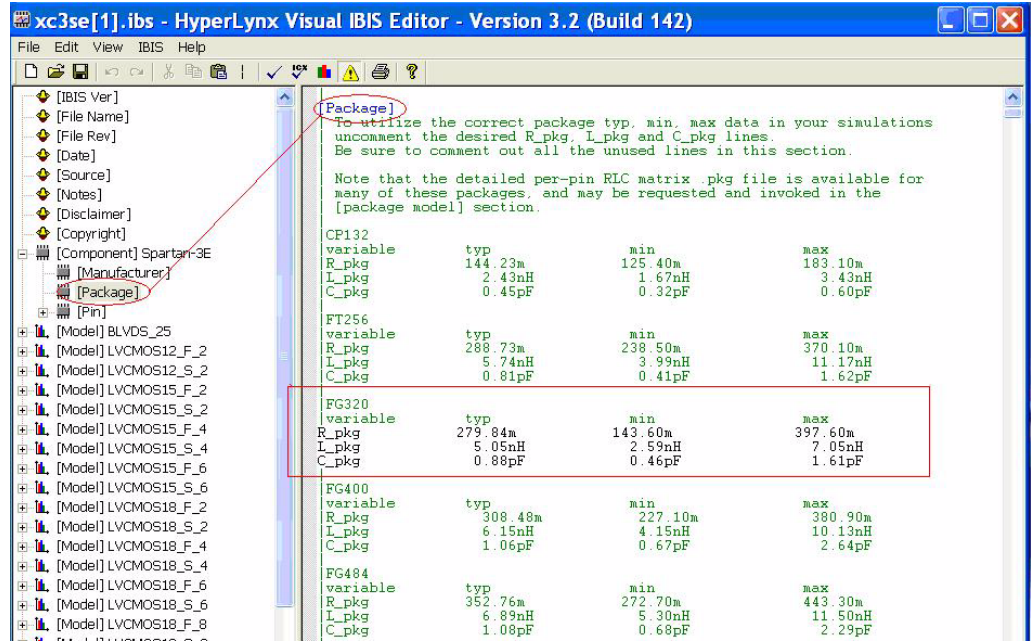

Figure 4-4: Embedded Electrical Parasitics Data
- **The IBIS header file** - [Package]. Most electrical data generated for recent device families will be summarized in the [Package] section of the device IBIS file. The [Package] section data will be formatted in the Typical, Min and Max format of the file. In the completed IBIS file, all of the packages should be represented. You may need to uncomment the specific package of interest. The [Package] section of the Spartan™-3E file is shown in Figure 4-4 to illustrate this method of conveying package-specific electrical data for a device family. Note that in this example, the FG320 is uncommented for use. The device IBIS files can be downloaded from: [http://www.xilinx.com/xlnx/xil\\_sw\\_updates\\_home.jsp?url=/support/download.htm](http://www.xilinx.com/xlnx/xil_sw_updates_home.jsp?url=/support/download.htm)
3. Specific device family data may be obtained from the IBIS file (see example in Figure 4-4), or they can be requested through your field engineer.
Figure 4-4 is a representation of electrical parasitics data embedded in a component family IBIS file.
- Base [Package] section data in IBIS device file. The base [Package] section data is provided for all newer devices in the base IBIS file. This data usually lists the packages used with Typical, Min, and Max parasitics, as illustrated in Figure 4-4.